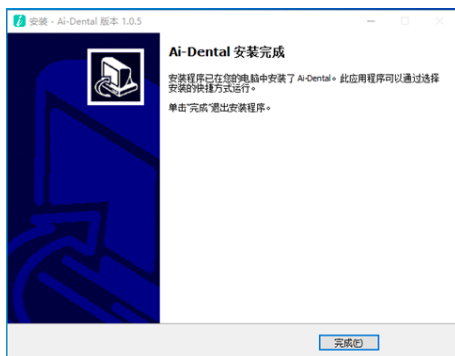

Figure 11
9. After software installation is complete, click "Finish", as shown in Figure 11: